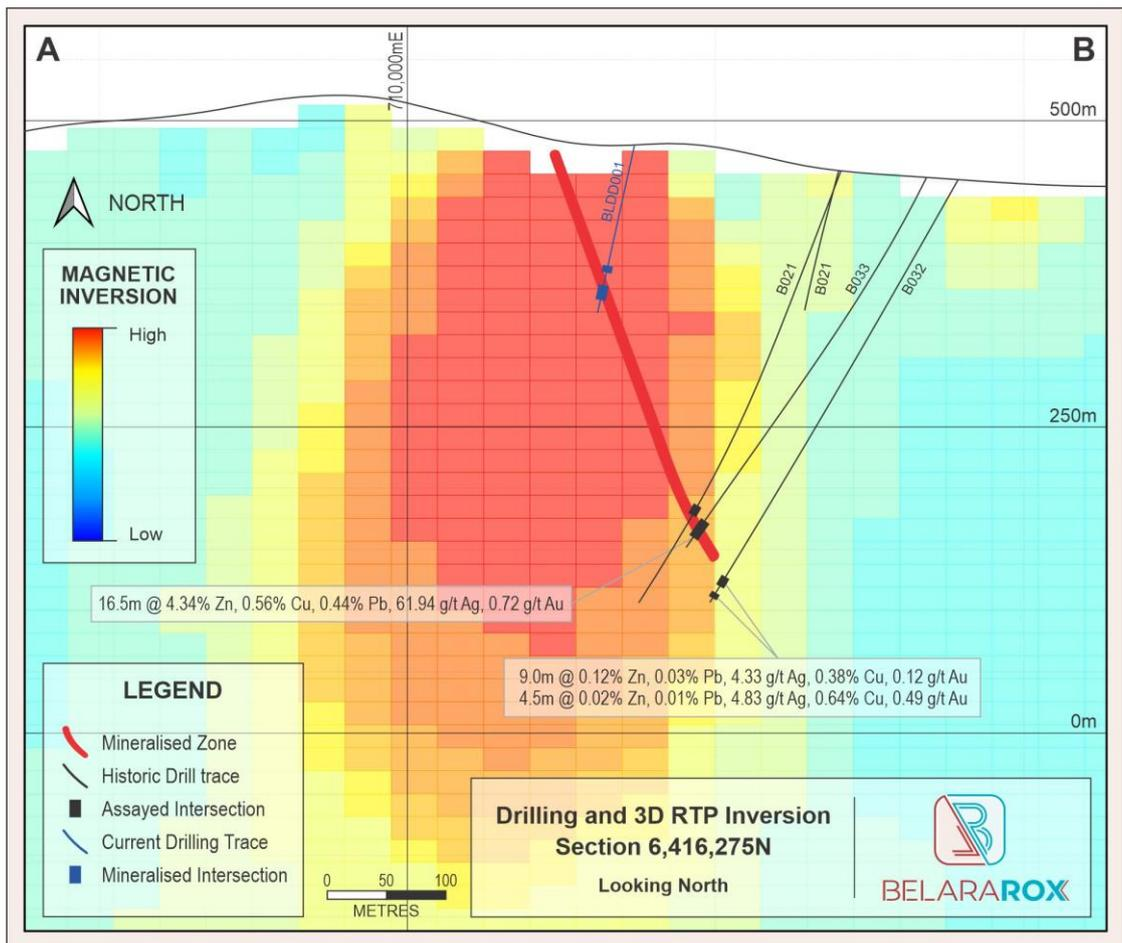

Figure 5. Visible sulphide logged in Hole BLDD001 compared to historic drilling, interpreted massive sulphide mineralisation and 3D RTP magnetic inversion.
BLDD001 targeted the interpreted location of untested massive sulphide mineralisation 120m down hole (Figure 5; Table 1), which is 200m up dip from deeper historic drill intersections including:
- 4.5m at 0.02% Zn, 0.64 % Cu, 4.83 g/t Ag and 0.10 g/t Au for **2.04% Zn equivalent** from 418.0m in B032 listed in the ASX announcement of 24 February, 2022 (Figure 5).
BLDD001 intersected visible chalcopyrite (copper) and sphalerite (zinc) sulphides slightly deeper than the targeted depth from 129m to 139m (Figure 1 and Figure 2; Table 2). A second zone of narrow disseminated sulphide was intersected from 111m and 113m (Table 2). The mineralised intersections in BLDD001 confirms the geological interpretation of the continuity and location of the zinc, copper, lead, silver and gold bearing massive sulphide mineralisation used in the 2007 historical resource estimate (Figure 5).